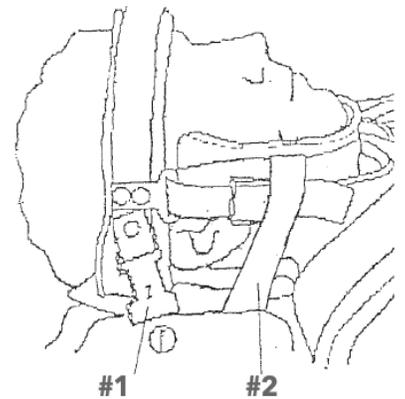

Figure 7: Attaching the occipital support
9. Apply the occipital support (FIGURE 7) by sliding it under the patient’s head and fasten it snugly to the facemask using the four hook and pile straps. The inferior straps are routed through the chafes located on the lower part of the upright to prevent migration of the straps. Raise the patient to sitting position and make fine tuning adjustments as necessary. The facemask should be snug enough to limit teeth separation to not more than 1/2" when opening the jaw. A butterfly clip is supplied to keep the shoulder straps from migrating and is applied where the straps are crossed in the back.